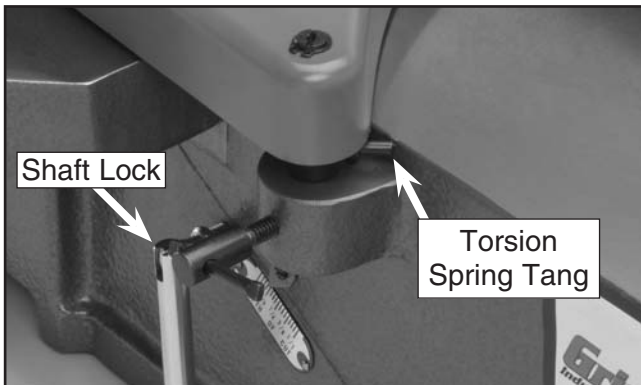

Figure 10. Guard mounted with spring tang in the correct position for proper return tension.
1. Wind the tang on the torsion spring back a half turn, and slide the guard shaft into the casting so the spring tang points to the right and rests against the casting, as shown in **Figure 10**.